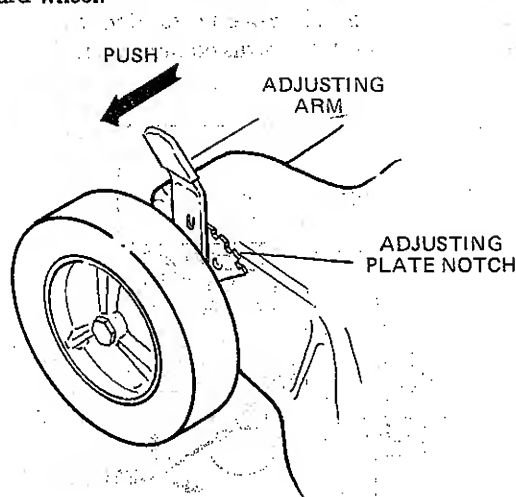

Figure 10
- Lift front or rear of mower a few inches off of ground and push adjusting arm (Figure 10) out of adjusting plate notch toward wheel.